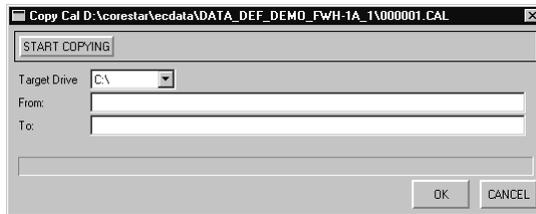

Figure 3-54. Cal Copy Dialog
- **TLIST > Cal > Copy ...** causes the **Copy Cal** dialog in Figure 3-54 to appear. As the name implies, this dialog provides a method of copying the currently opened cal group, in its entirety including the complete directory structure, to a drive selected by the user in the **Target Drive** drop-down box. Once the **Target Drive** is selected, **click** the **START COPYING** button to begin the process. Before clicking the **START COPYING** button, ensure that the desired cal group is currently opened, the **Target Drive** is properly selected, and the **Target Drive** contains the necessary media, i.e., ZIP disk, SuperDisk, MO, etc. The currently opened cal group for copying can best be verified by reviewing the information shown in the title bar.
In Figure 3-54, cal group *D:\CORESTAR\ECDATA\DATA\_DEF\_DEMO\_FWH-1A\000001.CAL* will be copied to C:\ drive.